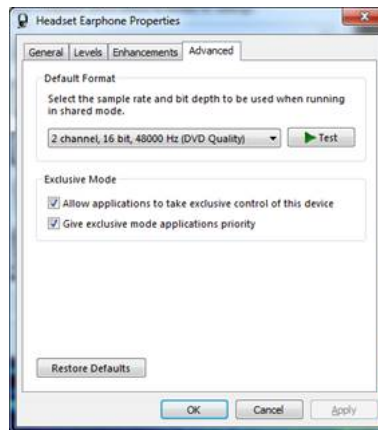

Figure 2—Headset Earphone Advanced Properties Settings.
Step 3: double click the Headset Earphone device in the Playback Tab to open Headset Earphone Properties, select the Advanced Tab as shown in Figure 2, and adjust the Default Format to 2-channel, 16-bit, 48000 Hz (DVD Quality). The reason that 48KHz is preferred is because that is the native, internal sample rate used for audio in PowerSDR. Choosing this sample rate avoids the necessity for PowerSDR to do sample rate conversions. 2-channel (stereo) is also preferred so that the mono output from PowerSDR will be heard in both ears or sent to both speakers, and to allow the use of the stereo features in PowerSDR.